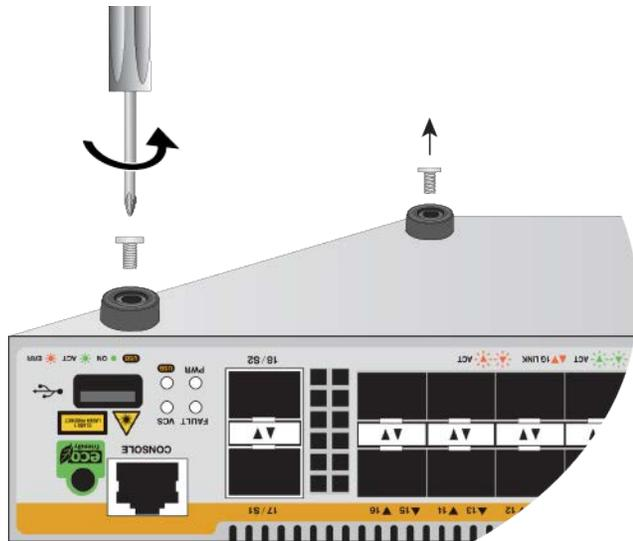

Figure 22. Removing the Bumper Feet
2. Use a cross-head screw screwdriver to unscrew the bumper feet screws. See Figure 22.
2. Use a small flat-head screwdriver to gently pry the rivet from the bumper feet. See Figure 22.